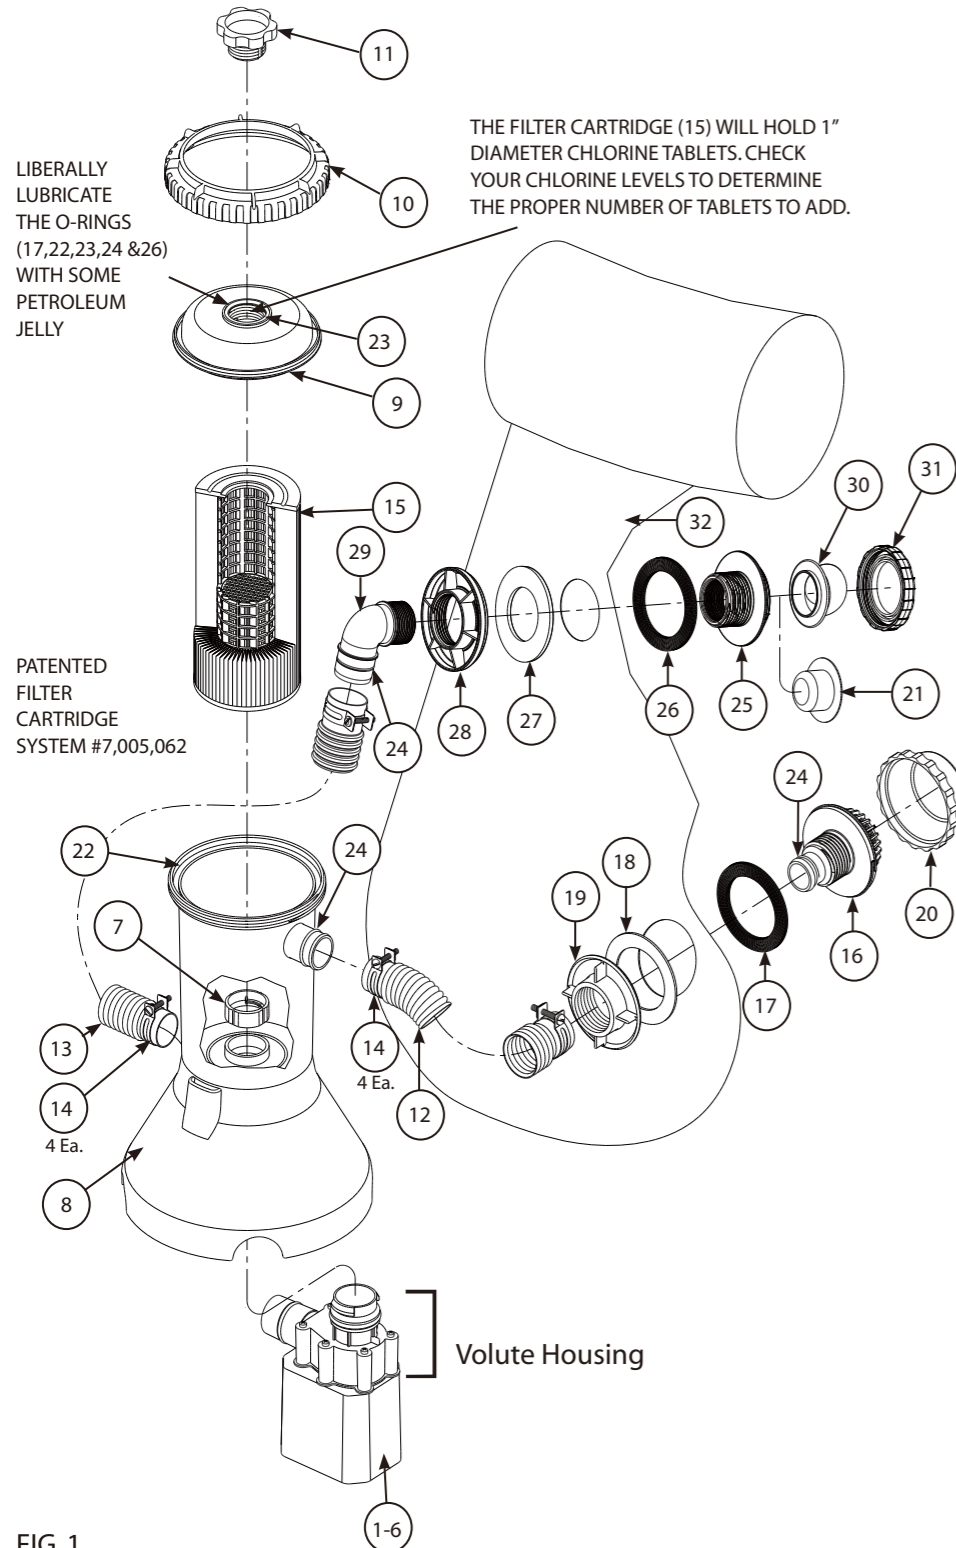

FIG. 1
1 POWER FILTER INSTALLATION: (Reference Page 3, Fig. 1)
Purpose; diverts direction of return water entering the pool, see part #30 FIG.1. You can adjust the RF Diverter Fitting (30) by loosening the RF Locking Ring (31) FIG 1. The RF Diverter Fitting (30) can be used to help generate clockwise rotation of the pool's water toward the Suction Fitting (16). To do so slightly loosen the Locking Ring and rotate the Diverter upward pushing water horizontally under the waters surface pointing away from the Suction Fitting area. DO NOT POINT it directly toward the Suction Fitting as this will deeply decrease water circulation and filtration. Tighten the RF Locking Ring to hold the RF Diverter Fitting in the desired position you choose. You can position the RF Diverter Fitting downward later to assist in keeping sediment from building along the bottom of your pool.